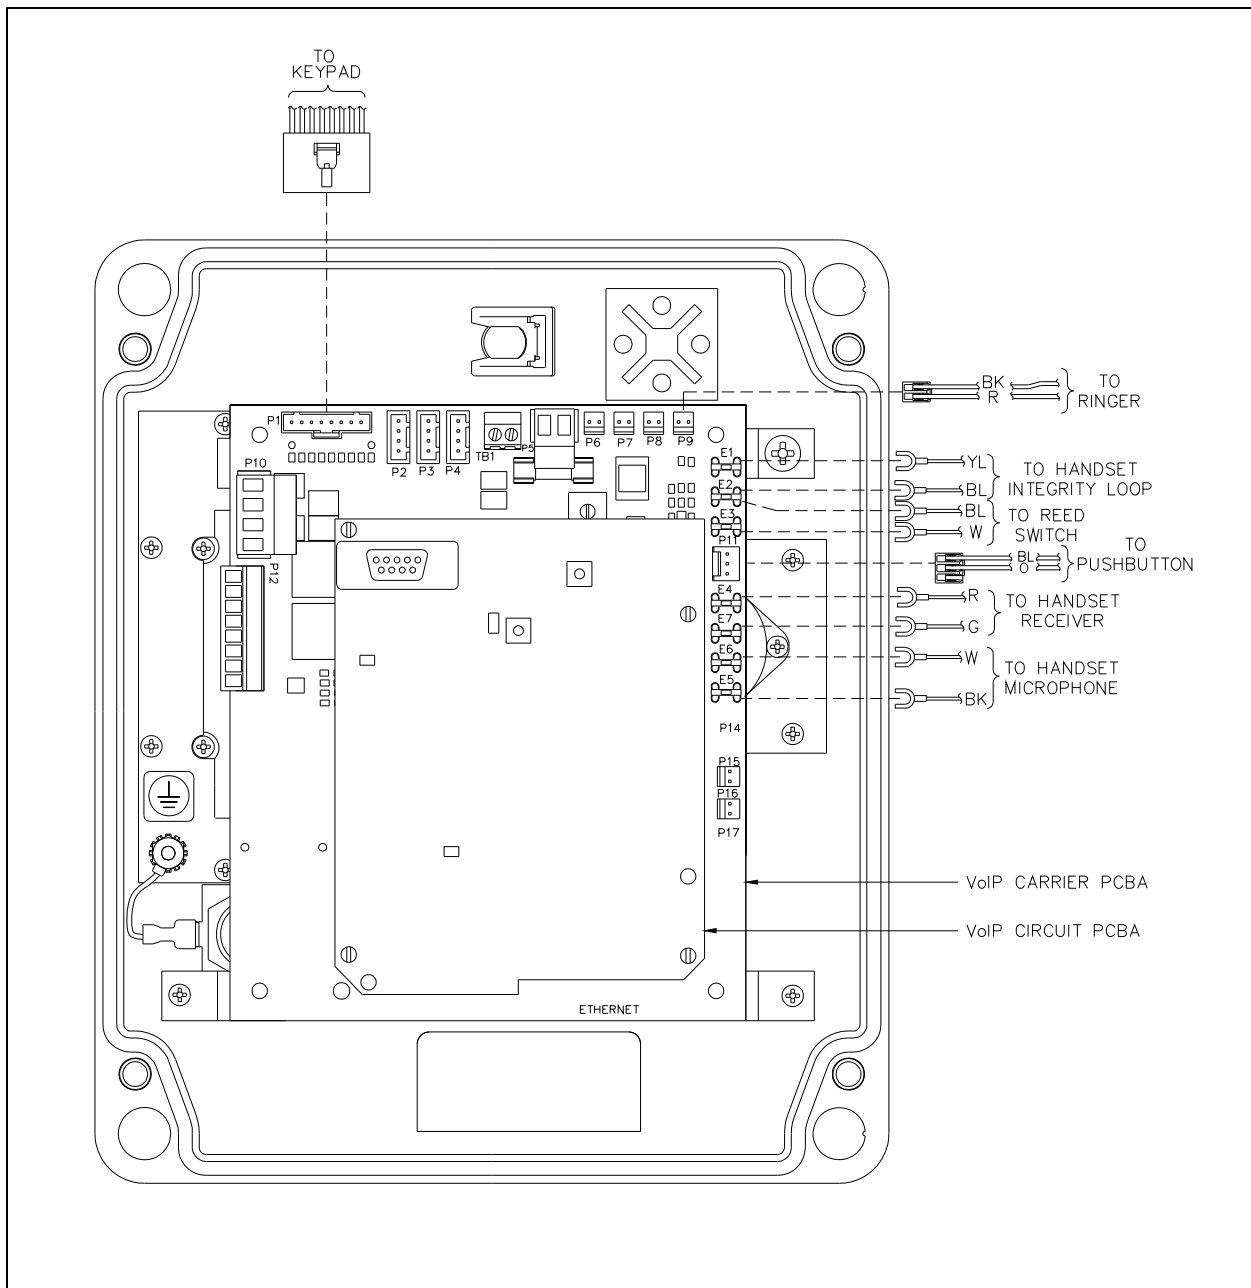

Figure 2. Models 246-700 and 256-700
2. Disconnect the handset, hookswitch, push button, keypad, and ringer cables from the VoIP Carrier PCBA. Record the location of each connection for later reconnection. See Figure 2.
1. Align the holes of the new PCBA with the snap-on nylon standoffs in the telephone. Refer to Figure 2 for correct PCBA orientation.
4. Refer to Figure 2 for locations of the connectors on the new PCBA.